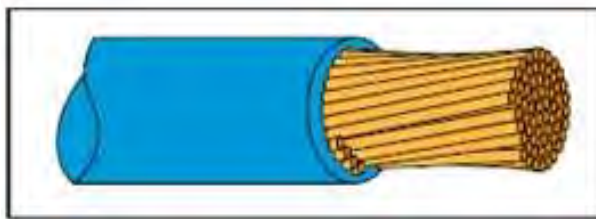

Figure 151
- (5) Inspect wire strands as follows:
- a. Broken, nicked, or cut strands as listed below and shown in Figure 151.